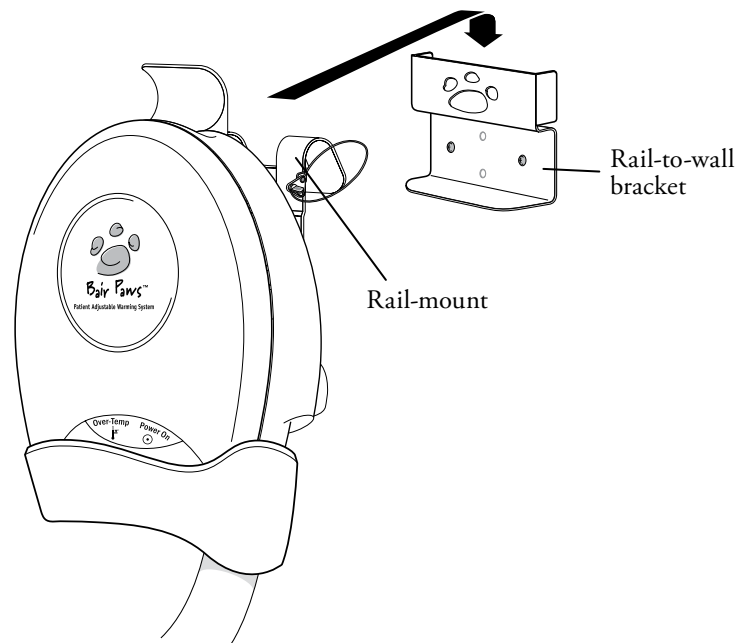

Figure 5. Placing the warming unit with a rail-mount onto the rail-to-wall bracket.
1. Using the wall-screw holes on the rail-to-wall bracket (see Figure 5) as a template, mark the position for the two wall anchors on the desired wall. The use of a level is recommended.
6. Hook the warming unit with the attached rail-mount to the rail-to-wall bracket as depicted in Figure 5.